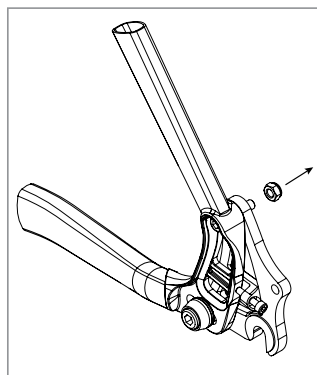

Figure 1
1. Remove the nut used for shipping from the non-driveside upper pivot bolt. Set it aside as a spare to the driveside nut (fig 1).